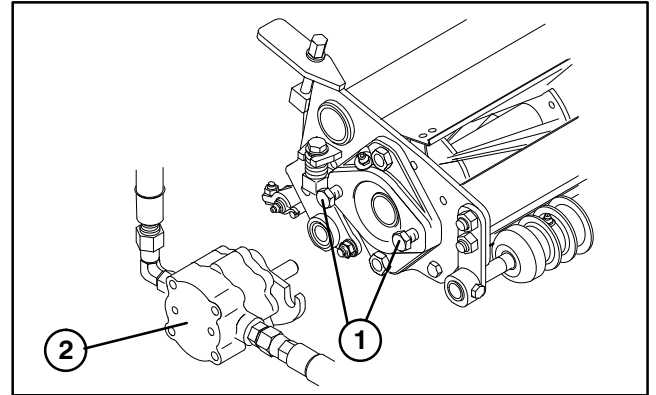

Figure 12
7. Assemble the mounting capscrews for the reel drive motor to each cutting unit. Leave approximately 1/2 in. of threads exposed on each mounting capscrew (Fig. 12).
10. Coat the spline shaft of the motor with clean grease and install the motor by rotating the motor clockwise so the motor flanges clear the studs. Rotate the motor counterclockwise until the flanges are encircling the studs and tighten the mounting capscrews (Fig. 12).